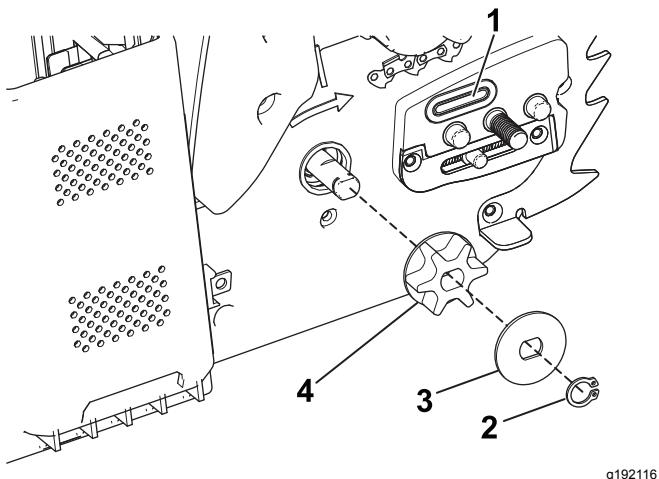

Figure 31
5. Remove the clip, spacer, and drive sprocket from the chain saw (Figure 31).
7. Check the oil passage (Figure 31) for debris and clean the area if necessary.